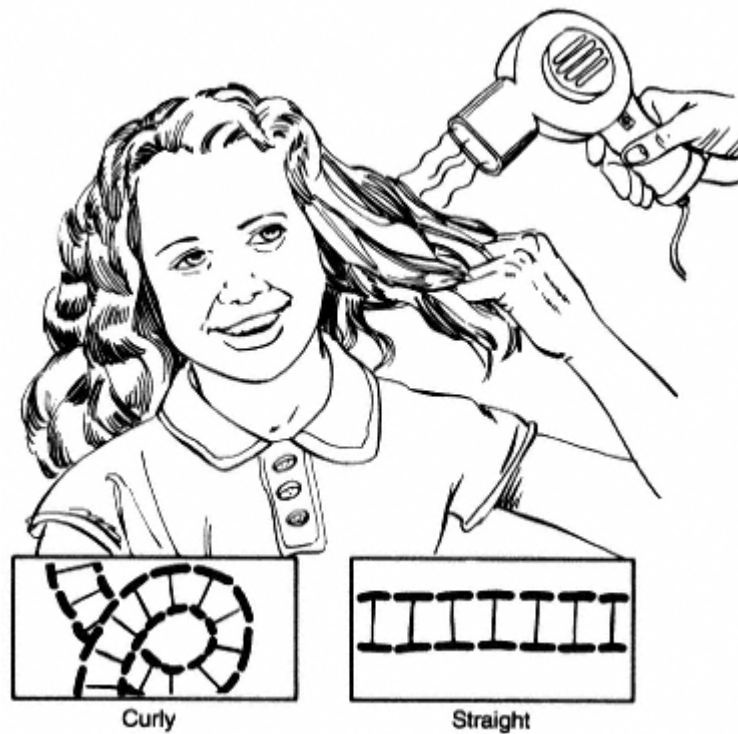

Figure 9.2
b. Choose a helper with curly hair. Straighten a lock of hair by asking your helper to hold a lock of his or her hair as straight as possible while you apply heat with a hair dryer as described in the dryer's instructions (see Figure 9.2). Again use before and after pictures to display the results.